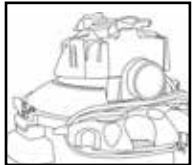

FIGURE 28
51. Before storing your vacuum cleaner the tank should be emptied and cleaned. The power cord can be wrapped around the cord wraps provided on the tank cover on rear of unit. **FIGURE 28.**